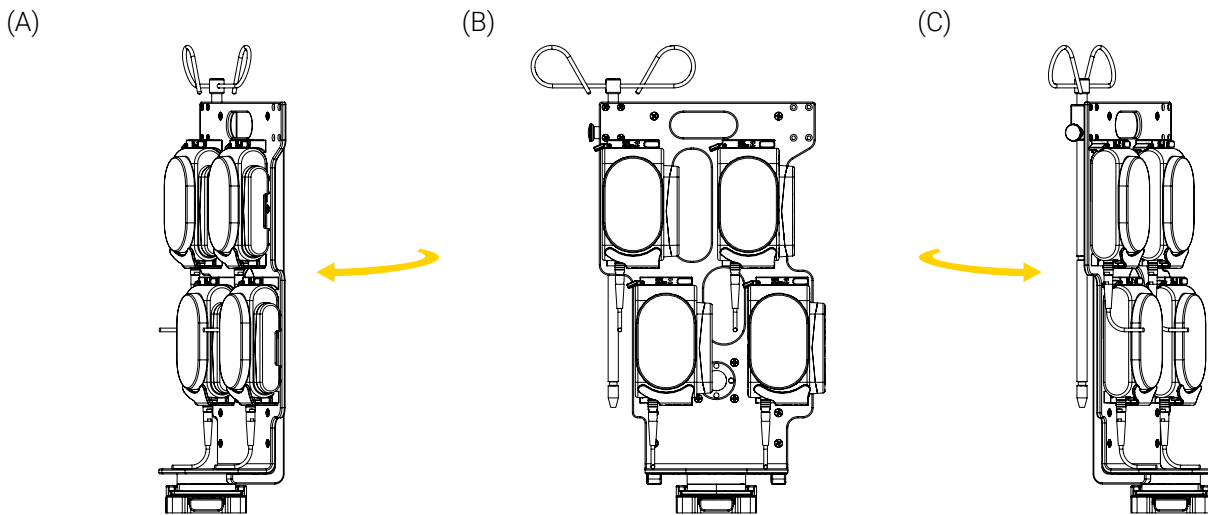

Figure 8: Rotating the mounting bracket on a horizontal Micro Base
3. If you have a horizontal base, turn the bracket up to 360° clockwise or counterclockwise to the desired position (Figure 8). Refer to the mounting bracket's user documentation if needed.